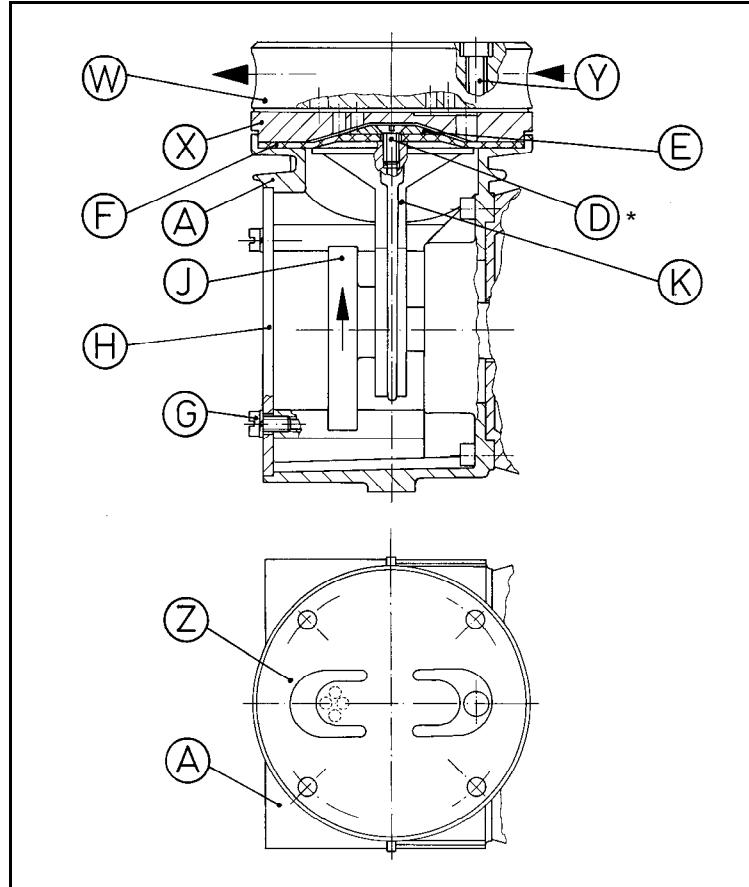

Fig. 20: Pump parts for versions with stainless steel head
** According to Fig. 20
* According to Fig. 20